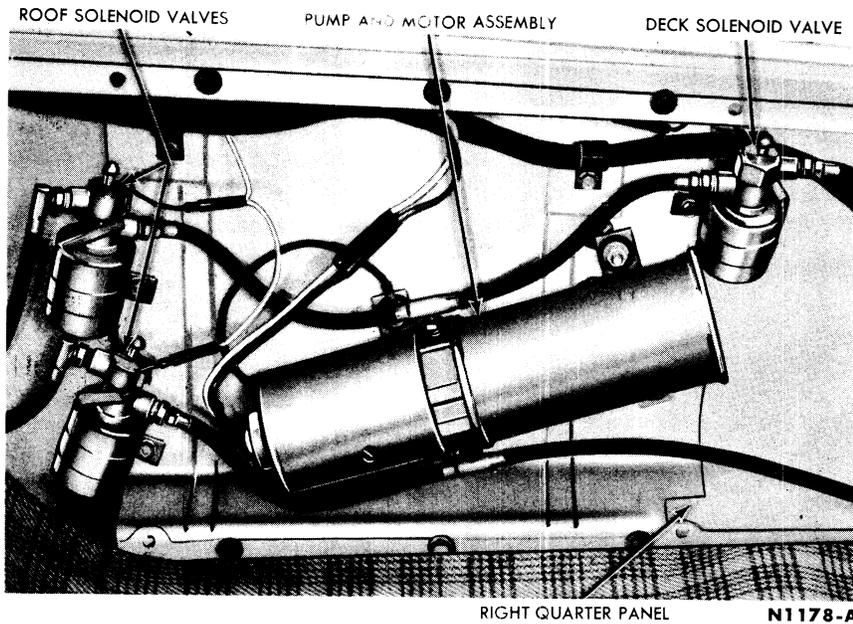

FIG. 21—Pump Assembly and Solenoid Valves
2. Disconnect the motor leads at the wire connector (Fig. 21).